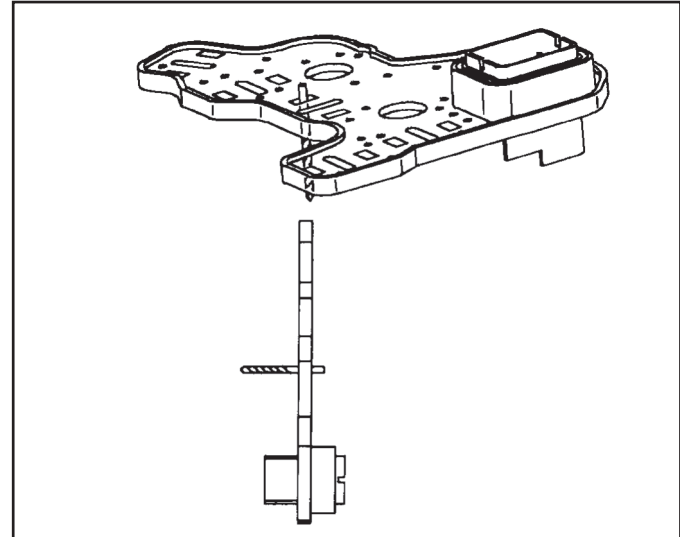

Figure 180
12. Check connector plate terminals with the shank of a #43 (2.25mm or 0.089 in.) drill bit. Be sure that there are no burrs on the drill bit shank. There should be a slight drag on the shank. If not, replace the connector plate (See Figure 180).